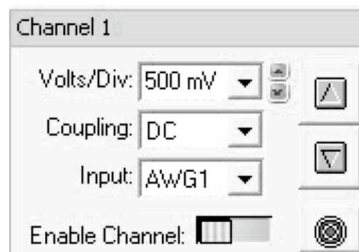

Fig. 4—Scope channel screen
2. Set Channel 1 to 500 mV, DC coupling, and AWG1 input. (AWG1 is both the Arbitrary Waveform Generator and the Function Generator.) See Fig. 4 below.